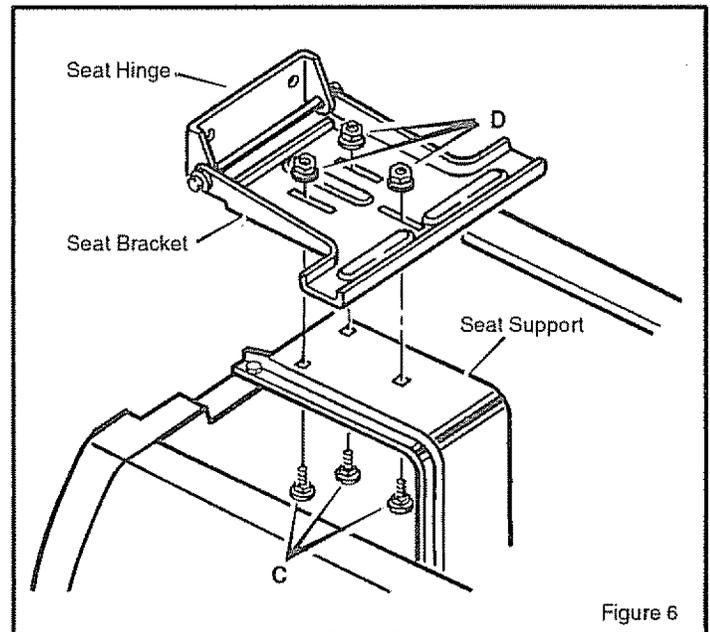

Figure 6
1. Set the **seat bracket** on the **seat support** (Figure 6). Pull the **wire harness** between the **seat hinge** and the **seat bracket**.